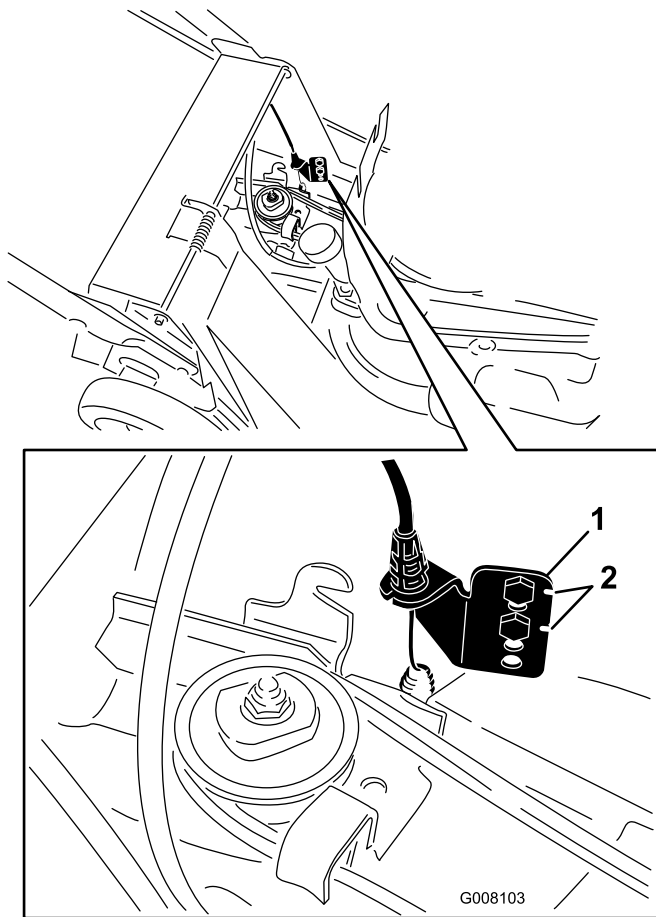

Figure 30
7. Remove the screws from the lower anchor bracket (Figure 30).
8. Move the lower anchor bracket up one hole (Figure 30).
is indicated by the notches next to the holes in the bracket (Figure 30).